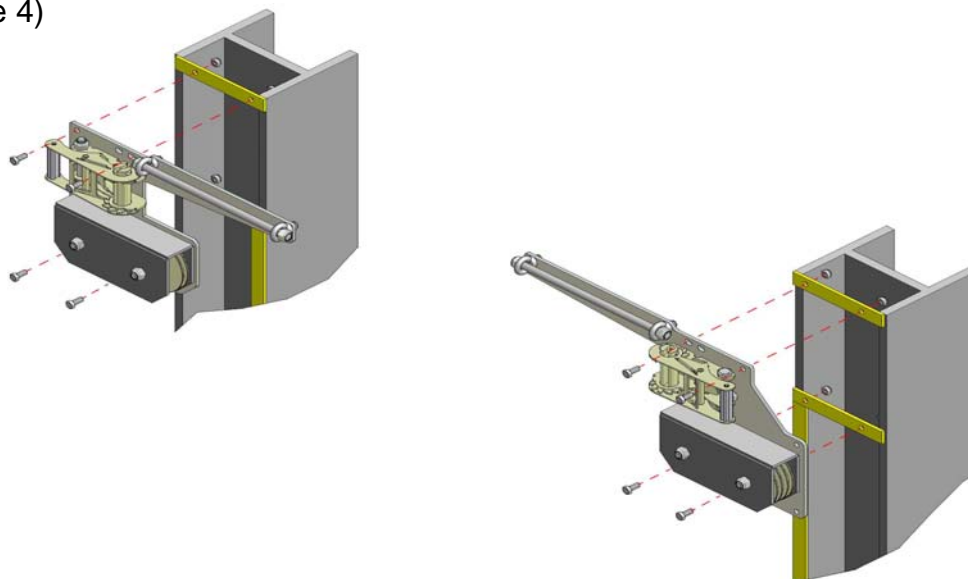

Figure 4
2.1 Top Plate Assembly: Bolt the Top Plates (G1 and G2) to the pre-installed brackets on the tracking top with the eight M8 x 30 bolts supplied (Figure 4)